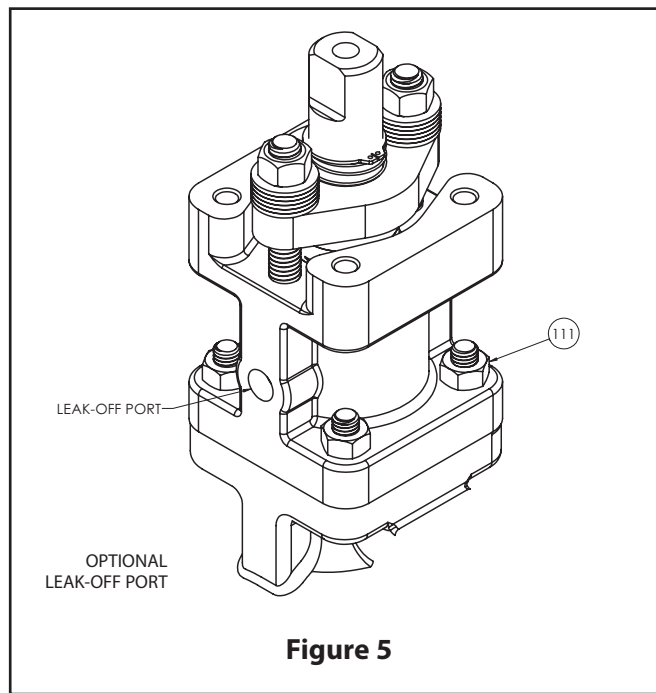

Figure 5
6. Remove the retaining ring (72) and grounding spring (70) from stem (4).
7. Remove hex nuts (30), disc springs (31) and compression plate (20). Pay careful attention to the orientation of the disc springs (31) and make sure they are in the same orientation during assembly.
8. Remove hex nuts (111) and lift the *Emission-Pak* housing (101) straight up until the ball end of the stem clears the valve body (1) (see **Figure 5**).